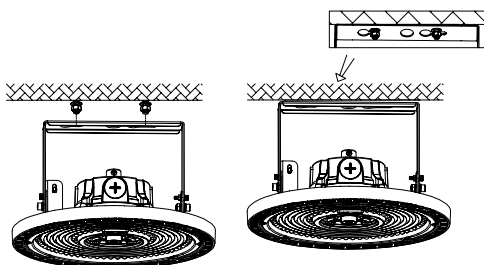

Figure 4
2. Electrical Connection: Once mounted, connect the fixture wires to the mains in accordance with local wiring codes and regulations. (See Figure 4)